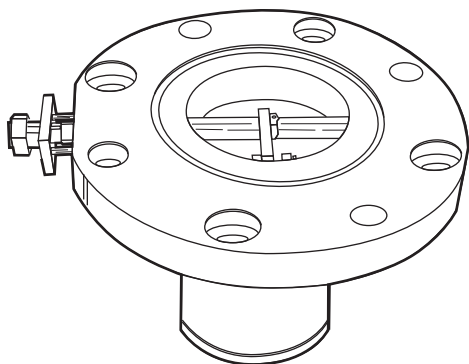

**Fig. 53 — Suction Service Valve Locking Device, Closed and Unlocked (Flooded Cooler Units)**
**SUCTION SERVICE VALVE (FLOODED COOLER OPTION)** — The suction service valve is a factory-installed option for 30XA units. Units have a bucket-style suction service valve that is bolted between the cooler outlet and the suction flange piping. The bucket-style suction service valve shaft has a locking device located on the shaft to lock the valve in either a fully open position or a fully closed position. The locking device must be pulled out prior to moving the valve handle to a fully open or a fully closed position. See Fig. 53 and 54 for details on the bucket-style suction service valve.